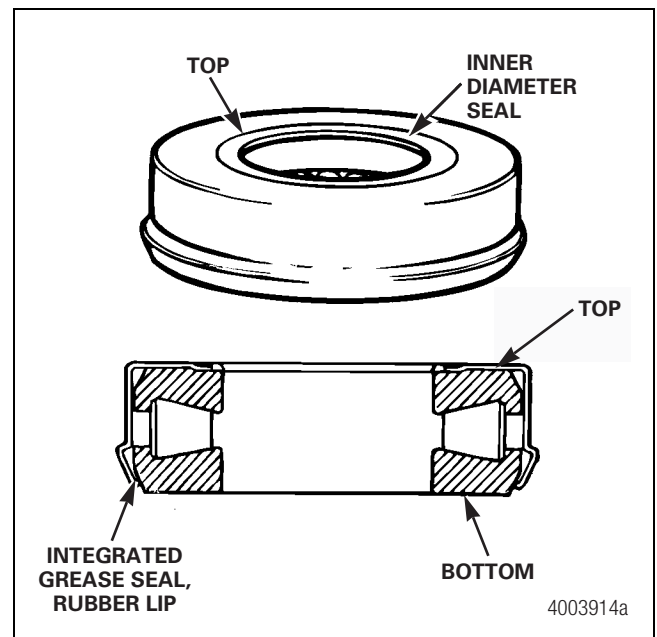

Figure 21
4. Prior to installation, locate the top of the thrust bearing assembly. The thrust bearing assembly must be installed with the correct orientation as follows. Figure 21.